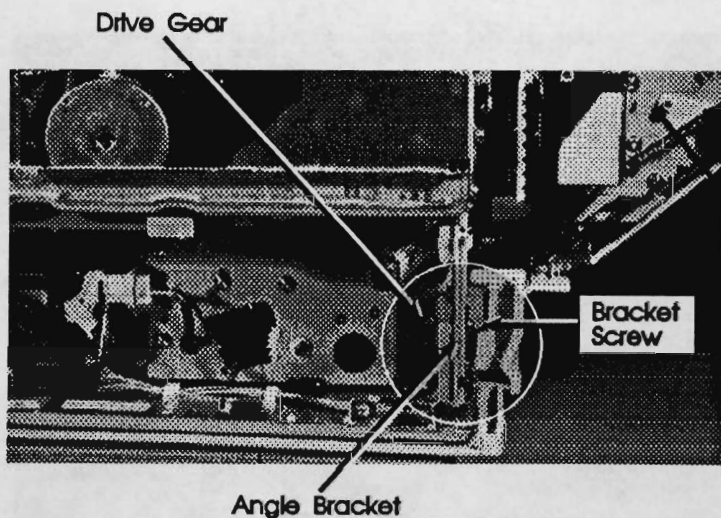

Figure 6-18. Angle Bracket and Drive Gear (HP 33447 and 33459)
2. Remove the (4) screws that retain the back cover of the switchback assembly.
4. Remove the right and left side E-rings, the bushing and the switchback roller shaft. See Figure 6-18.